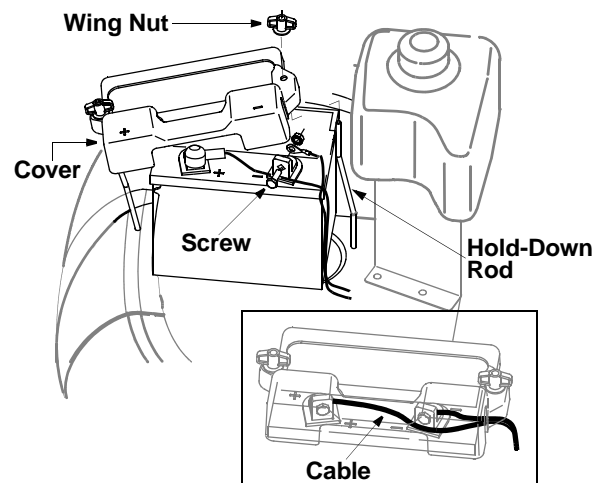

Figure 3
The battery is located under the hood assembly above the left rear wheel. Refer to Figure 3 .
- Remove both wing nuts securing the battery and cover to the battery hold-down rods. See Figure 3 .
- Attach the black battery cable to this negative terminal on the battery and tighten securely. See Figure 3 .